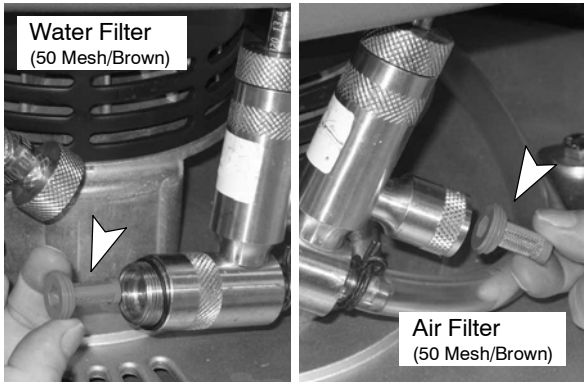

FIG. 55
- 2. Replace the water and air filter (Figure 55). An 8mm hex wrench is required to install new water filter.